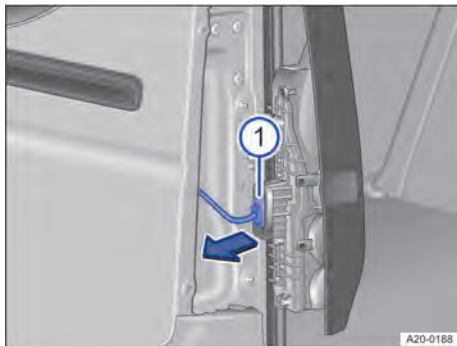

Fig. 174 On the tail light cluster: disconnecting the connector.
1. Pull off the connector in the direction of the arrow → Fig. 174 ①.
4. Plug the connector onto the bulb holder → Fig. 174 ①.